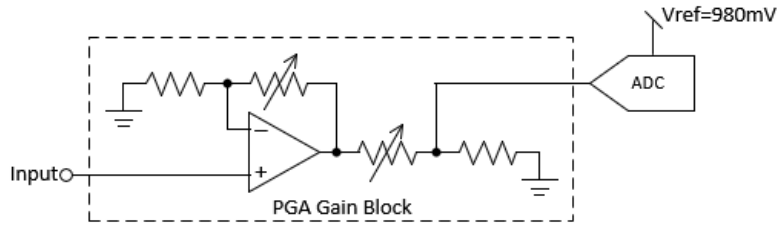

Figure 37. PGA Gain and ADC Block Diagram
*Note:* See Figure 37 for a block diagram that shows the operation of the PGA Gain and ADC.